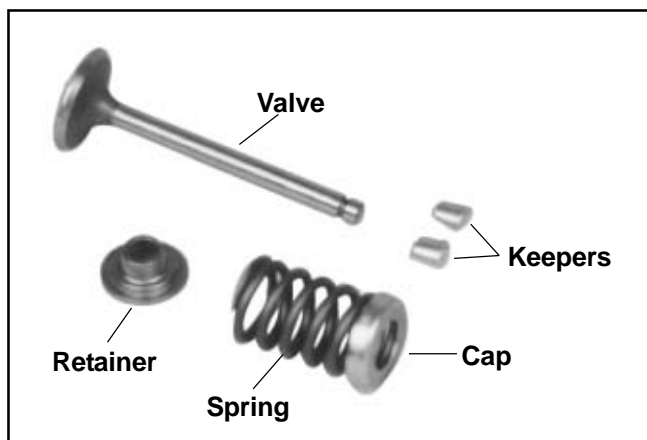

Figure 9-41. Valve Components.
3. Once the valve spring is compressed, remove the following items. See Figures 9-41 and 9-42: